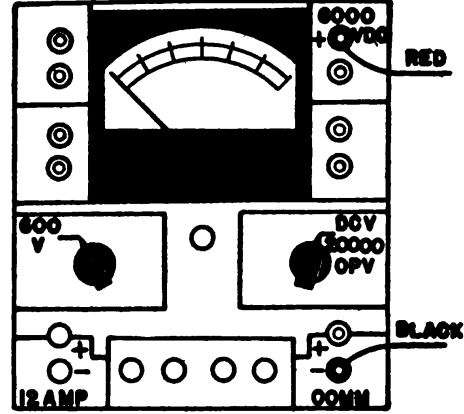
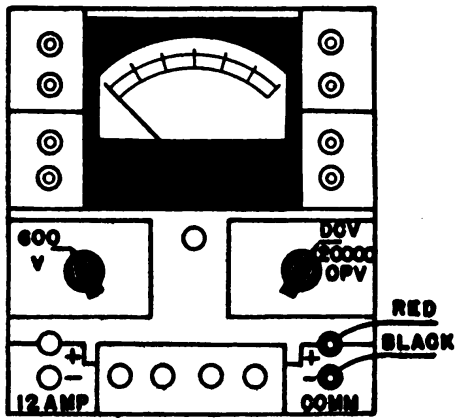

FIG. 5C: 0-1200 V, 0-6000 V,
FIG. 5B: 0-3V, 0-12V, 0-60V,
a. When using 0-1,200 volts and 0-6,000 volts d-c ranges at 20,000 ohms-per-volt, see figure 5C for switch positions and jack connections, and proceed as follows:
- (1) Observe the precautions for voltage measurements, particularly the high-voltage precautions.
- (2) Set circuit switch to D.C.V. 20,000 O.P.V.
- (3) Set the range selector switch to 600 V. position.
- (4) Insert the black test lead into the —COMMON tip jack and the red test lead into either the +1,200 V.D.C. or +6,000 V.D.C. jacks, 20,000 ohms-per-volt d-c, depending upon the range desired.
- (5) For the 0-1,200 volt range, multiply reading on black 0-12 d-c scale by 100.
(6) For the 0-6,000 volt range, multiply reading on black 0-60 d-c scale by 100.
b. When using 0-3, 0-12, 0-60, 0-300, or 0-600 volt d-c range at 20,000 ohms-per-volt see figure 5B and table I for switch positions, meter scales, and jack connections, and proceed as follows:
(1) Observe the cautions for voltage measurements.
(2) Set the circuit selector switch to D.C.V. 20,000 O.P.V. position.
(3) Set the range selector switch as follows: